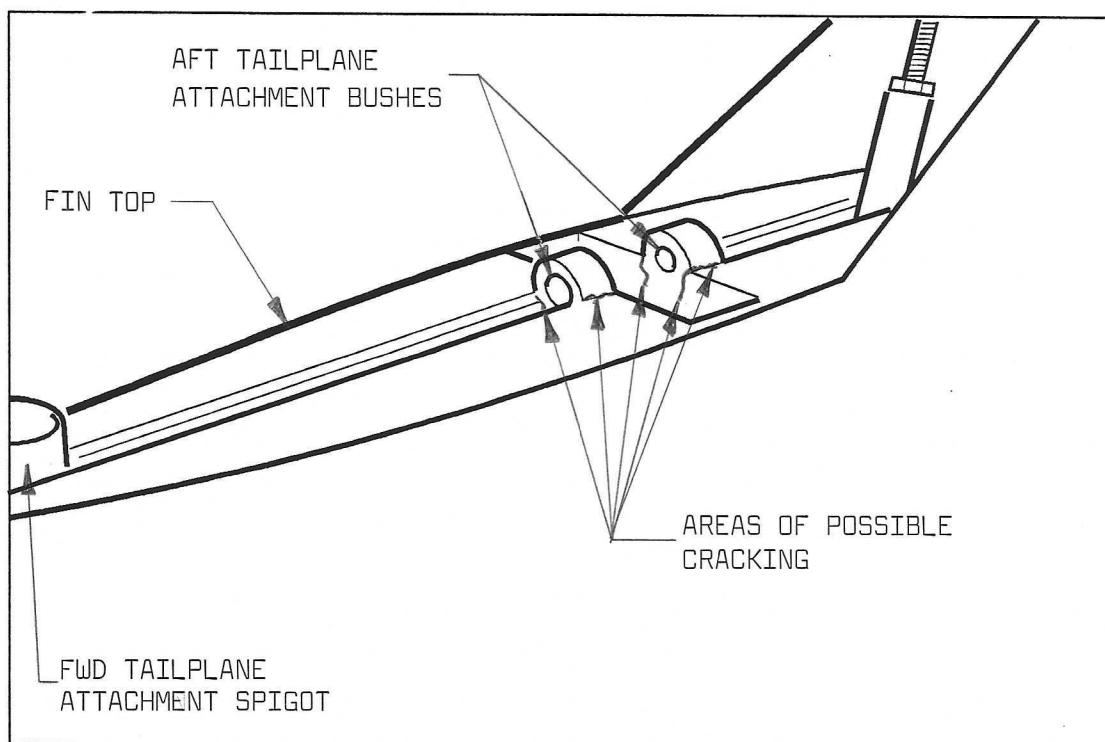

FIG 1
3. Using a torch and a magnifying glass, check the structural integrity of the ropes securing rigging bushes to fin, ie there are no cracks in the areas shown on Fig 1. Additionally check the tailplane tang support structure within the fin for delamination etc. Should there be any doubt as to the existence of any cracks then place a bar (bush diameter is 7mm) in each bush in turn and carefully apply a twisting action on the bush, sufficient to disturb any crack that may be there. Ensure force used is not such to damage structure or bush bores.